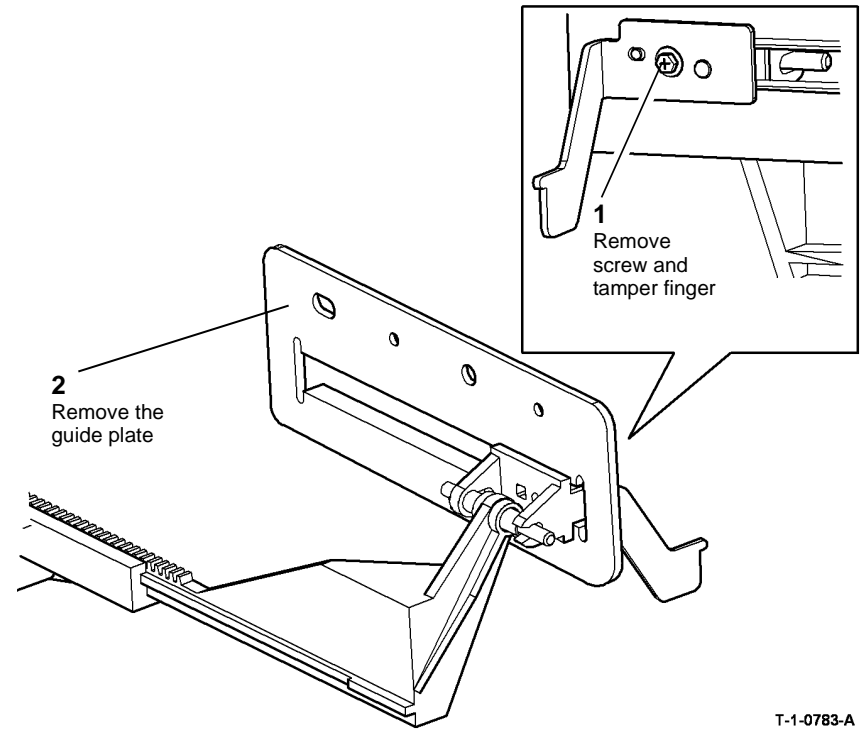

Figure 3 Guide plate removal
8. **Figure 3**, remove the tamper guide plate from each of the tamper assemblies.